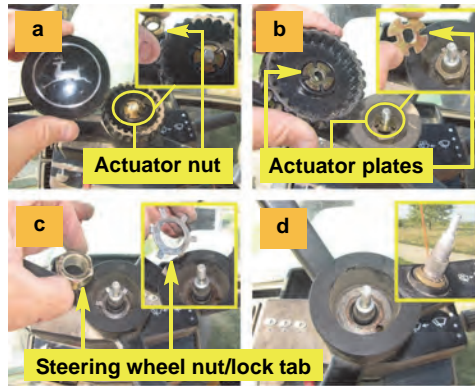

Figure 3 (a-d): Removing the steering wheel
- The steering wheel center cap (Figure 3-a) and the telescopic actuator nut (you will reuse this - Figure 3-a, inset).
- b. Using the original actuator assembly retaining nut you removed at step 3 (Figure 3-a), secure the column telescoping actuator assembly (Figure 5b inset).